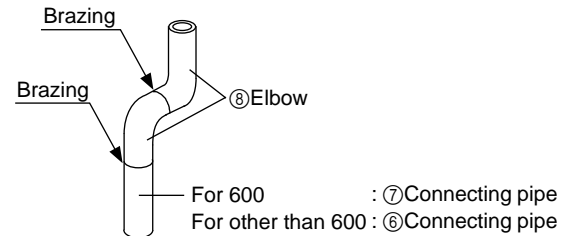

Fig. 4
- (1) Remove the copper cap and rubber packing attached to the piping and flange of the distributor (gas) (optional).
- (2) Assemble outside the unit with the elbow (⑧), connecting pipe (⑦ for 600 type), or connecting pipe (⑥ for types other than 600) in the specified shape and braze (see Fig. 4).